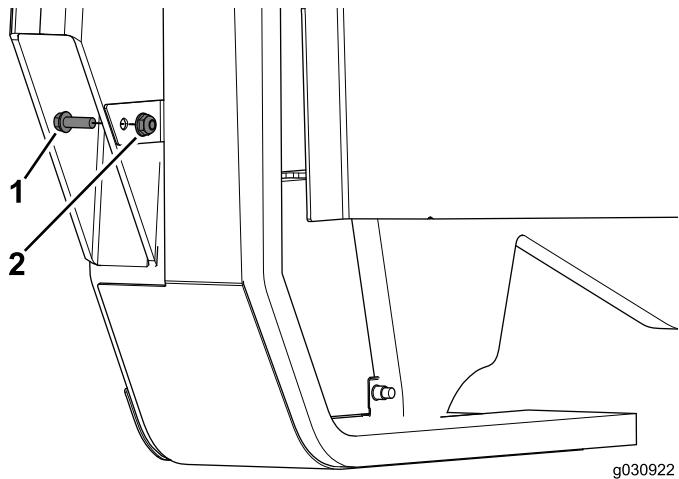

Figure 30
3. Use 1 bolt (1/4 x 3/4 inch) and 1 flange nut (1/4 inch) to complete the installation of the panel assembly (Figure 30).